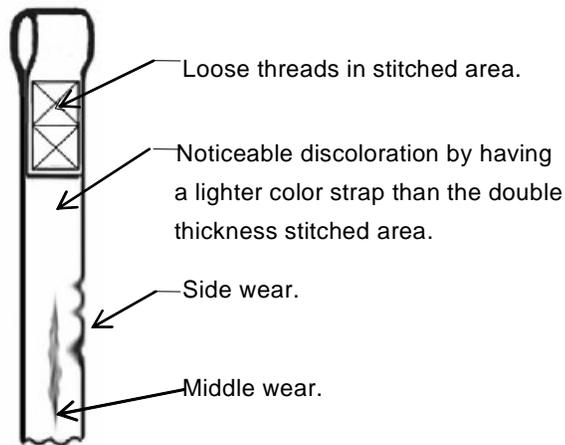

Fig. 9
2. Look for any signs of wear like, loose threaded in stitched areas, noticeable discoloration, side and middle wear. (Fig. 9)